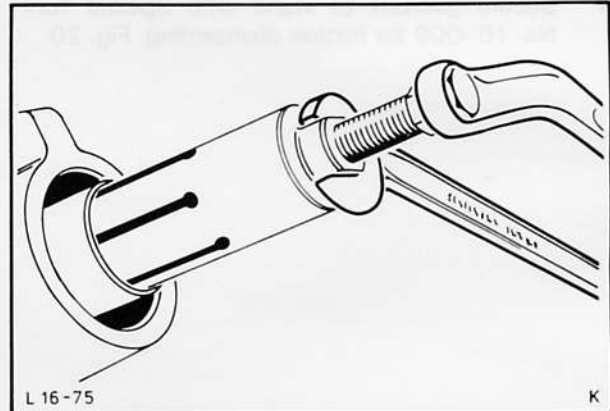

Fig. 23. Extract extension housing bush with Special Tool No. 16-025
8. Extract extension housing bush with Special Tool No. 16-025, Fig. 23.